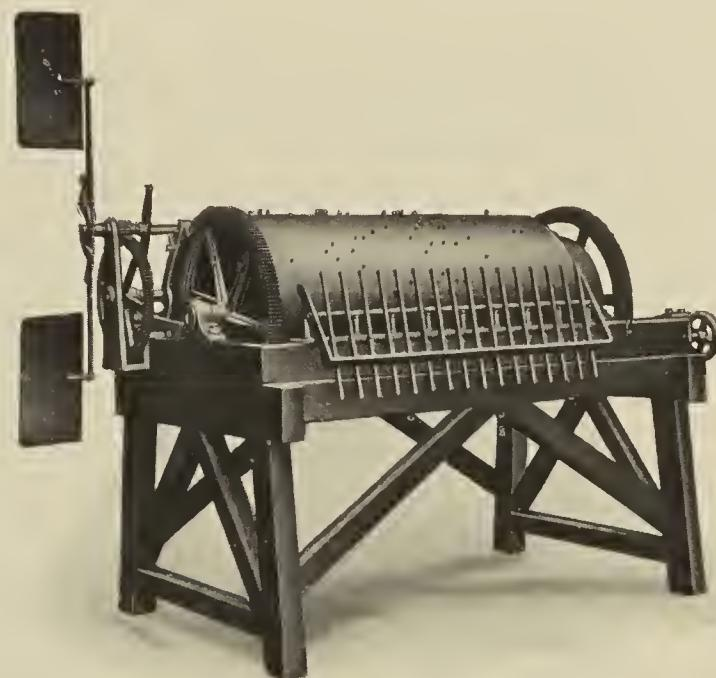

Fig. 2. Weight Driven Tune Playing Machine
**Drum:** Fig. 2. The large barrel is pegged as in a musical box, to play three or four simple tunes. The pegs depress levers, which lift and release hammers striking on the outside of the bells. It is driven either by weights or an electric motor.